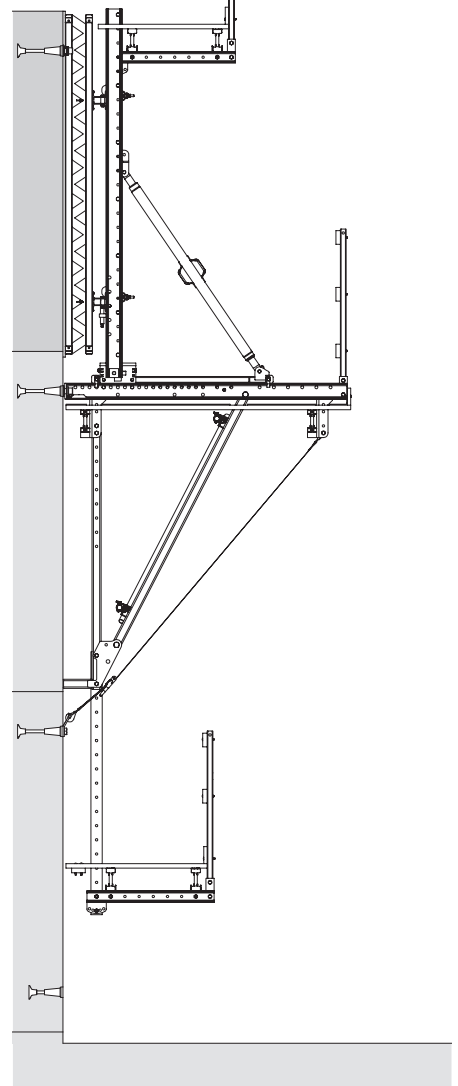

Fig. 13
13. Insert locking pins, see A5.2. → secured position (Fig. 13)